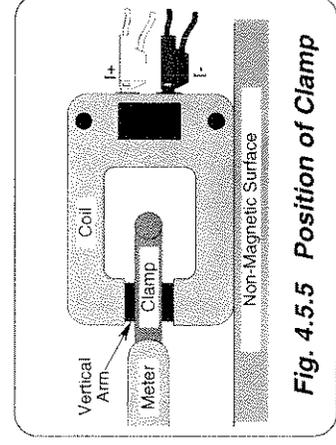

Fig. 4.5.5 Position of Clamp
- Fig 4.5.5. With the coils located on a non-magnetic surface (not the work mat, as it has a steel core), place the clamp in position so that it surrounds the vertical arm of the coil. Keep the clamp mid-way up the vertical arm, and away from the corners.